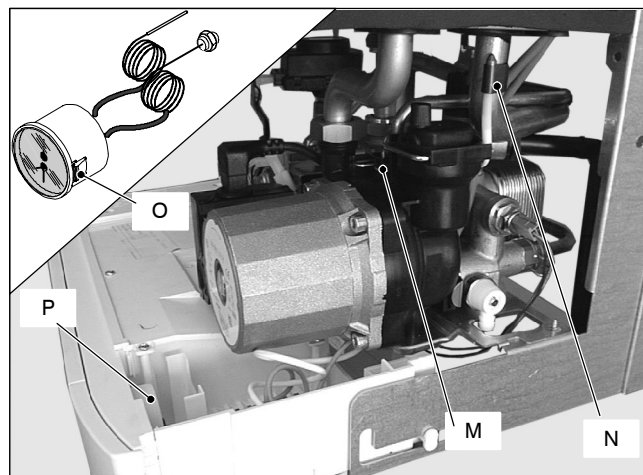

Fig. 53
- 2 Remove the fork M and the probe holder spring N (Fig. 53).